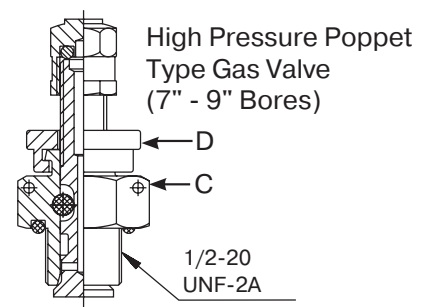

Figure 6
Make sure nitrogen supply is off. Attach hose's nitrogen tank connector (as shown in Figures 1 & 3) to the nitrogen bottle. If the accumulator has a cored style gas valve (as shown in Figures 5 a & 5b), follow steps A through M and skip steps G and K. If accumulator has a gas valve as shown in Figure 6, follow steps A through M and skip steps F and J. Reference Parts List on page 8 for the Item listed in instructions below.
- G. For gas valves as shown in Figure 6 and accumulators with pre-charges between 3000 - 5000 psi, hold gas valve at point "C" with one wrench while unscrewing hex nut at point "D" with a second wrench. This will open the poppet inside the gas valve. Note: Three turns will fully open the valve.
- K. For gas valves as shown in Figure 6, with a wrench, tighten hex nut at point "D" to close internal poppet (5-8 lb-ft) (6.8 - 10.8 N-m).
Accumulators having gas valve as per Figure 6.
- D. Hold gas valve at point "C" with one (1) wrench while unscrewing hex nut at point "D" with a second wrench. This will open the poppet inside the gas valve. Turn 3 times and read pre-charge.
- F. Per Figure 6 using a wrench, tighten hex nut at point "D" to close internal poppet (5-8 lb-ft.) (6.8-10.8 N-m) then open bleed valve to relieve residual gas charge in the gauging assembly.
- G. Per Figure 6, hold gas valve at point "C" with wrench and remove swivel nut assembly.
Cleaning and dressing the end caps, figures 6 through 10